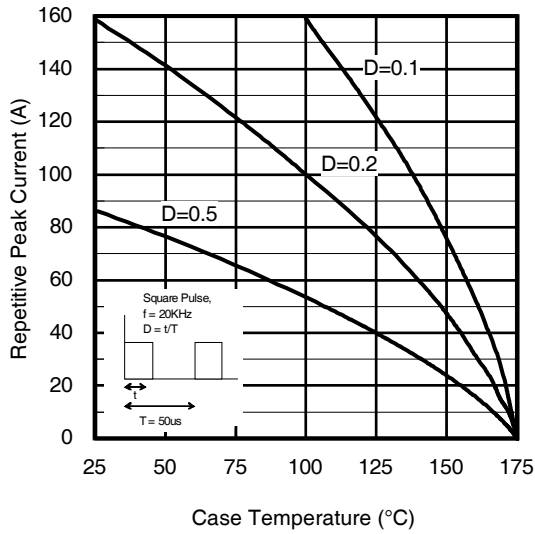

Fig 19. Maximum Diode Repetitive Forward Peak Current vs. Case Temperature
- ① $V_{CC} = 80\% (V_{CES}), V_{GE} = 20V, L = 200\mu H, R_G = 10\Omega$.
- ② Pulse width limited by max. junction temperature.
- ③ Refer to AN-1086 for guidelines for measuring $V_{(BR)CES}$ safely.
- ④ fsw = 20KHz, refer to figure 19.
- ⑤ Sinusoidal half wave, t=10ms.